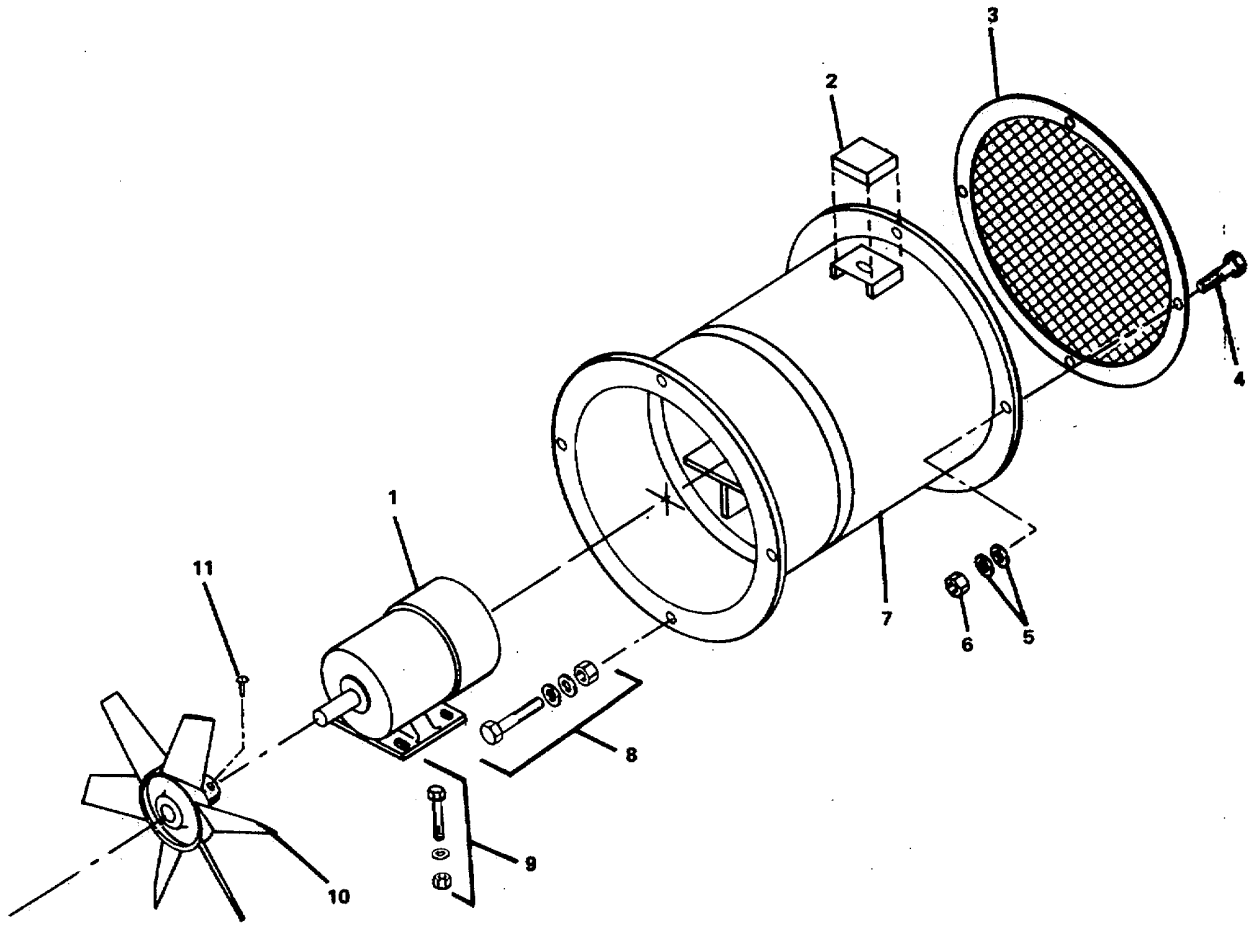
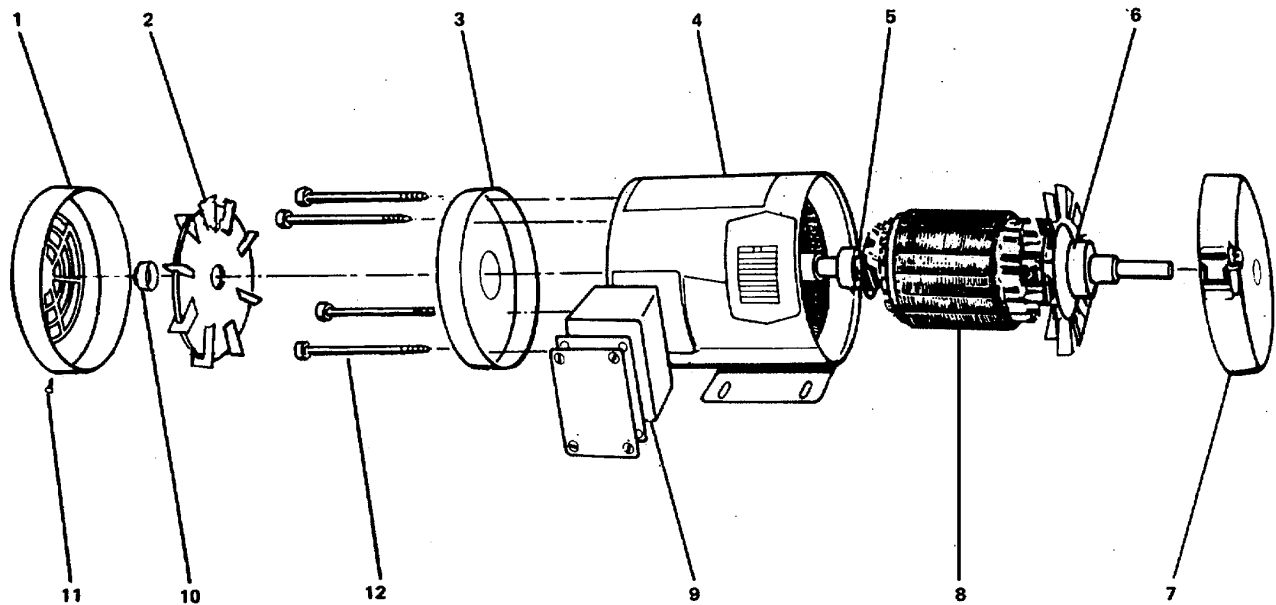

Figure 2-19. Ventilating Fan (Exhaust Fan #3).
Figure 2-20. *Alternating Current Electric Motor (EF #3).*
- a. Tag and disconnect electrical wiring from conduit box (2, FIGURE 2-19).
- b. Support the fan assembly and remove mounting bolt, nut, and washer assemblies (8) from bulkhead end of the fan drum (7).
- (2) Tag and disconnect electrical wiring from terminal box (9, FIGURE 2-20).
- (3) Loosen setscrew (11, FIGURE 2-19) and remove the impeller (10) from the shaft of the motor (1).
- (4) Remove mounting bolt, nut, and washer assemblies (9).
- (5) Withdraw the motor (1) from the fan drum (7).
b. Removal of bearings (refer to FIGURE 2-20):
- (1) Remove screws (11) and fan cover (1) from motor housing (4).
- (2) Remove locking hub (10), external fan (2), thru bolts (12), and end plates (3) and (7).
- (3) Remove rotor (8) from motor housing (4).
- (4) Remove annular ball bearing (5) from non-drive end of the rotor (8) with a puller.
- (5) Remove bearing (6) from drive shaft with a puller.
c. Replacement of bearings (refer to FIGURE 2-20):
- (1) Install new bearing (6) onto drive shaft with a press.
- (2) Install new annular ball bearing (5) onto non-drive end of the rotor (8) with a press.
- (3) Position the rotor (8) in the motor housing (4).
- e. Replacement of motor (refer to FIGURE 2-19):
- (1) Position the motor (1) on its mounting surface in the fan drum (7).
- (2) Install mounting bolt, nut, and washer assemblies (9). Secure bolts firmly.
- (3) Install impeller (10) onto shaft of motor (1). Tighten setscrew (11) firmly.
- (4) Connect the electrical wires to terminal box on motor.
- (5) Install screen (3) with nuts (6), washers (5), and bolts (4).
- a. Position the fan and install mounting bolt, nut, and washer assemblies (8, FIGURE 2-19) in bulkhead end of the fan drum (7). Secure bolts firmly.
- b. Connect wiring to conduit box (2).
- (1) Turn electrical power ON.
- (2) Start and run fan to check operation.
- (3) Remove "Out of Service" tag from circuit.
**2-31. Repair Fan, Ventilating (Exhaust Fans #4 and #6)..(FIGURE 2-20)**